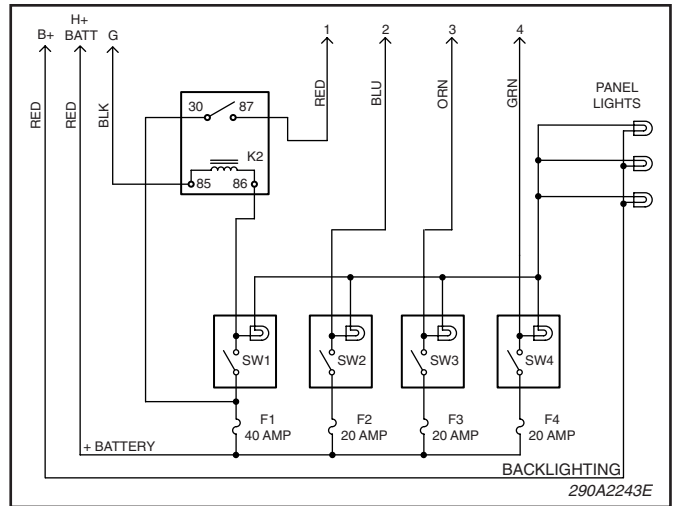

Figure 3. Wiring Diagram.
Figure 3 illustrates the correlation of the color-coded wires to a corresponding switch. Example: Switch 1 (switch at extreme left) controls the signal at the unmarked red wire.
1. See figure 3 to correlate the color-coded wires to the corresponding switches. Use 12GA wire and connect SW1 (unmarked red wire) to the applicable accessory load. Use 14GA wire and connect SW2 through SW4 to the applicable accessory load.